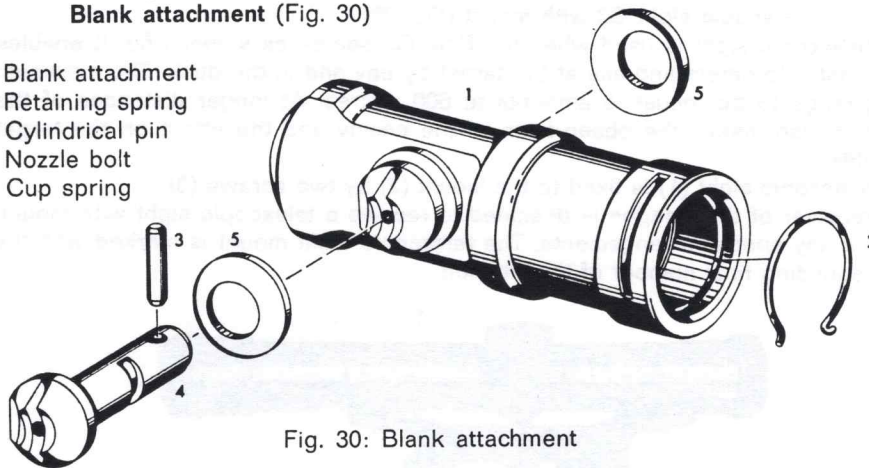

Fig. 30: Blank attachment
(1) **Blank attachment (Fig. 30)**